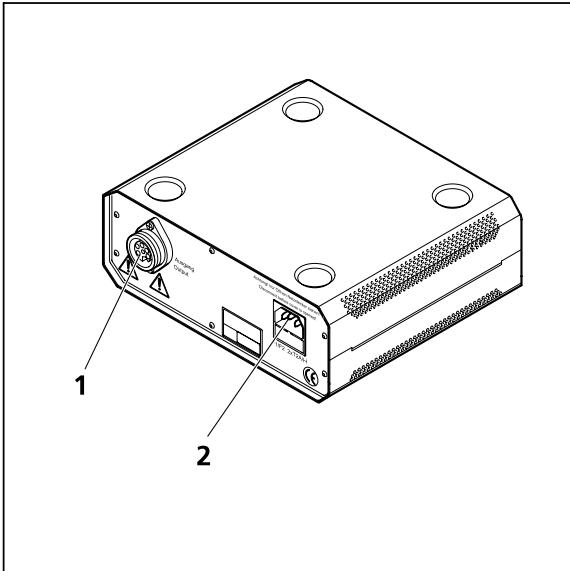

Fig. 3-32 Transformer HBO 100 W
- Connect the multi-pole HBO 100 lamp plug with the adapter (Fig. 3-32/1) of transformer HBO 100 W. Secure with a retaining ring.
- First plug the cord into the outlet (Fig. 3-32/2) of transformer HBO 100 W, then insert the power plug into the electrical outlet.